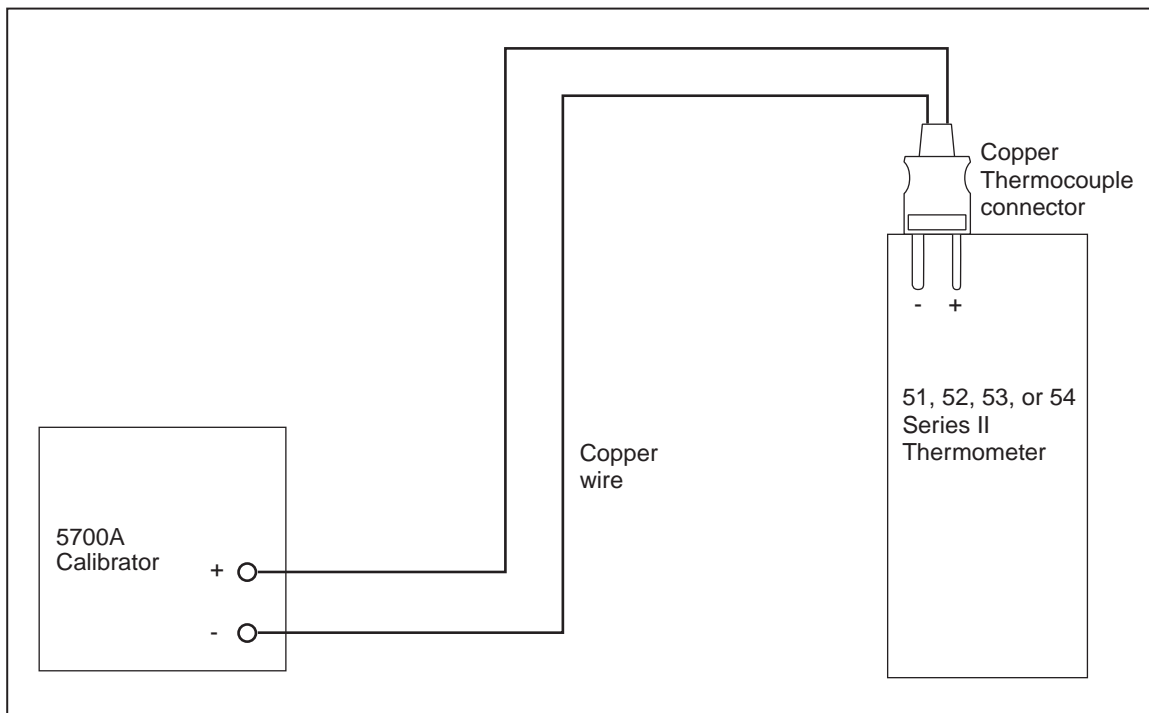

Figure 3. Calibration Connections
1. Calibration of the A/D converter, using the set up shown in Figure 3.
1. Connect the calibrator to the T1 input of the thermometer using copper (non-thermocouple) wire and a copper thermocouple connector. Refer to Figure 3 for proper equipment connections.